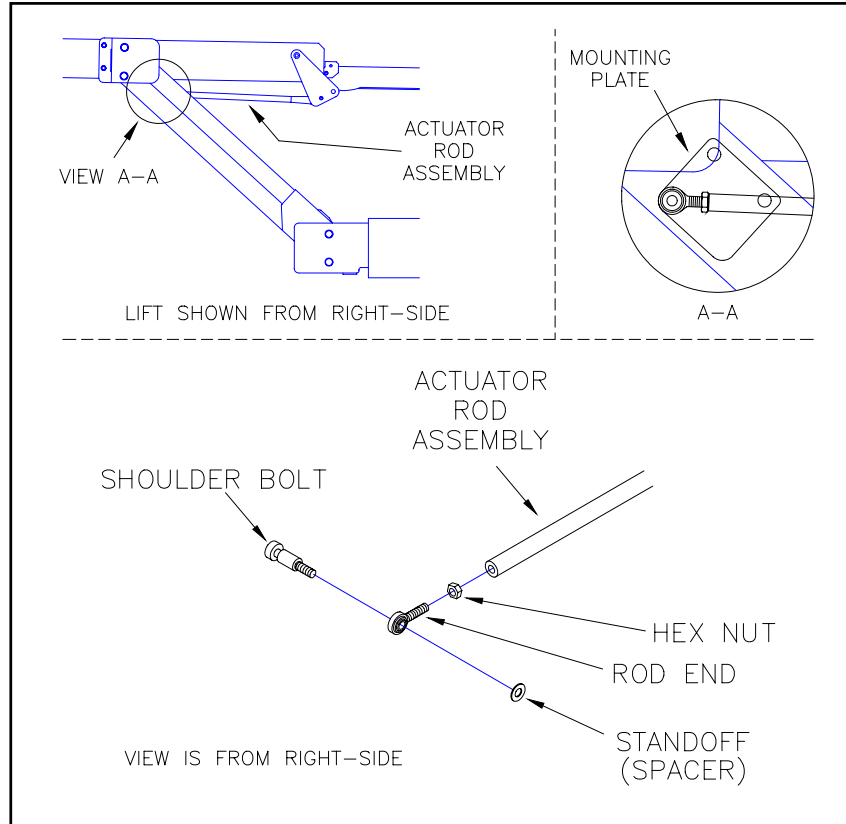

FIGURE 4-11: BRIDGEPLATE ACTUATOR ROD ASSEMBLY
- 4) Refer to **Figure 4-11**. On the **RIGHT-SIDE** of the lift between the junction of the traveling frame and the platform assembly, locate the rod end of the actuator rod assembly. Loosen the rod end hex-nut.